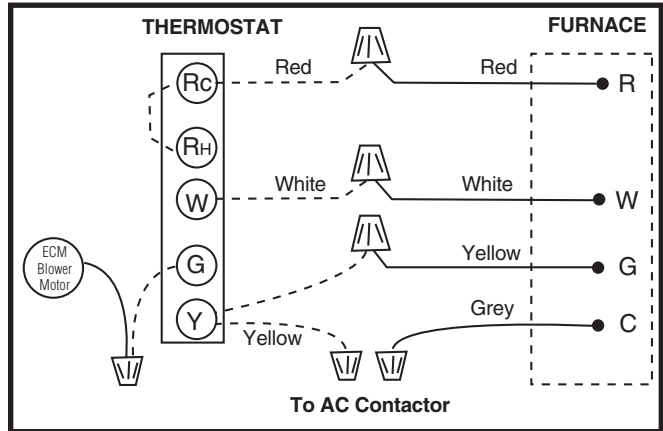
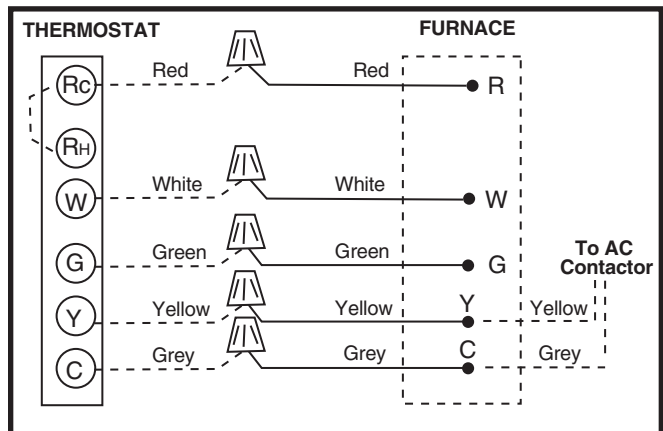

Figure 25. Thermostat Wiring for UTEC/NORDYNE Control boards
Figure 26. Thermostat Wiring for Emerson control boards
Proper line voltage polarity must be maintained in order for the control system to operate correctly. Verify the incoming neutral line is connected to the white wire and the incoming “hot” line is connected to the black wire. The furnace will not operate unless the polarity and ground are properly connected as shown in Figure 25 and Figure 26 \(page 14\).
2. Connect the thermostat wires to the furnace low voltage pigtails (dependent on the installation application). See Figure 25 and Figure 26 \(page 14\). **NOTE:** If AC is installed with the furnace, a Y connection is required to be made at the furnace. See Figure 32 \(page 27\) and Figure 33 \(page 28\).